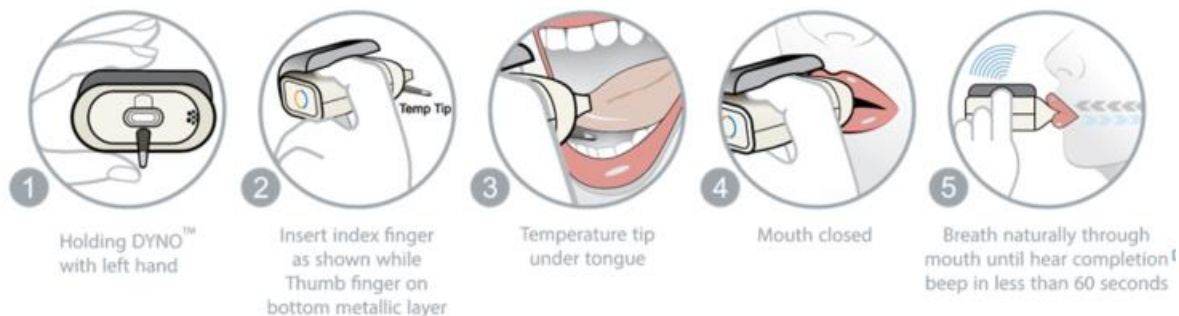

Figure-9, Dyno Sensor use instruction
5. Hold the Dyno sensor in your LEFT hand. (Figure-9)